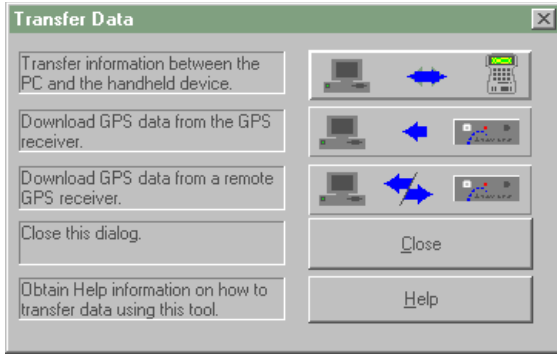

Figure 3. “Transfer Data” window.
6. Click on the "Transfer Data" icon in the "Project Control" window to start transferring data from the roving unit. The software should display the "Transfer Data" Window (refer to Figure 3).